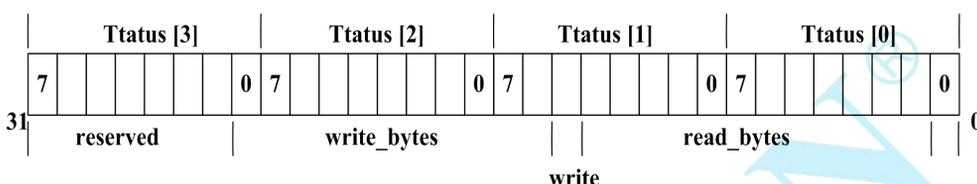

Figure 3.7 Status byte data structure
If the status() array is defined as an 8-bit integer, and the data sequentially read out through SPI reading status are status(0), status(1), status(2) and status(3), its data structure is shown in Figure 3.7.